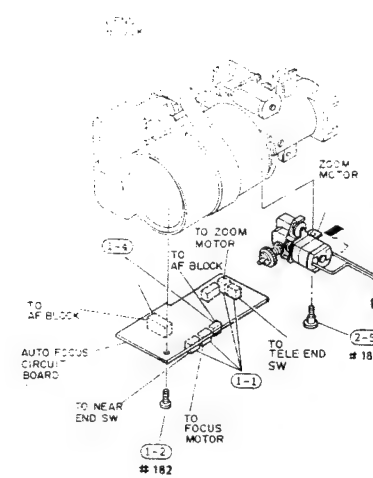

Fig. 2-101
- 1) Disconnect four (4) connectors on the autofocus circuit board. (See Fig. 2-101)
- 2) Remove one (1) screw holding the autofocus circuit board
- 4) Unsolder two (2) connectors on the autofocus circuit board.
(2) Zoom Motor
- 5) Remove one (1) screw holding the zoom motor. (See Fig. 2-101)